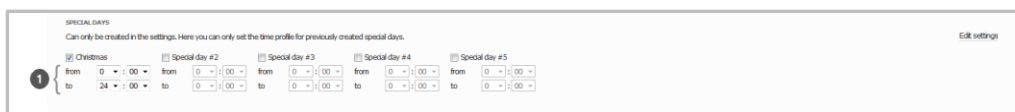

Figure 98: Assigning special days
- Click **Edit settings** (Figure 98: Assigning special days) in the **Time settings** field to configure special days.
You have ticked the "Christmas" special day ❶ (Figure 98: Assigning special days) .
The "Christmas" special days ❶ (Figure 98: Assigning special days) are **not** ticked.